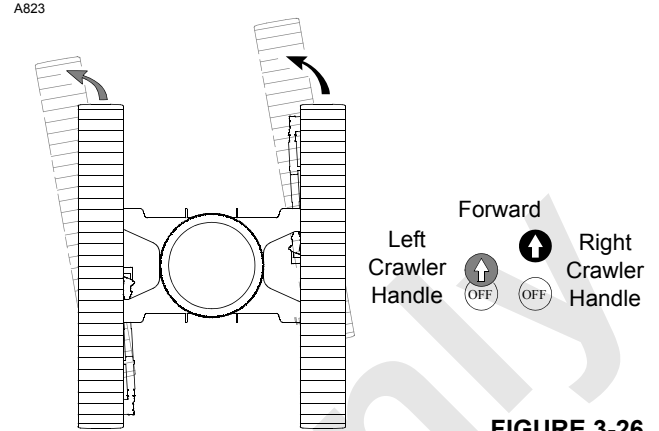
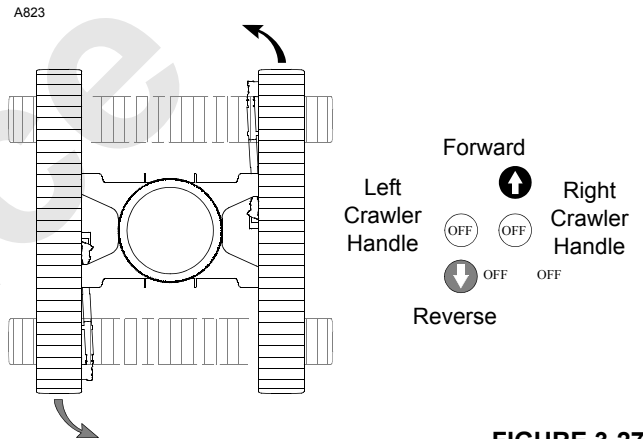

FIGURE 3-26
FIGURE 3-27
- Make gradual turns (Figure 3-26) or counter-rotate (Figure 3-27) whenever possible so both crawlers are always powered
12. To make a GRADUAL LEFT TURN (Figure 3-26), move both crawler handles to front from off, but move right crawler handle farther to front than left crawler handle; right crawler will turn faster than left crawler.
14. To COUNTER-ROTATE LEFT (Figure 3-27), move right crawler handle to front from off and move left crawler handle to rear from off.